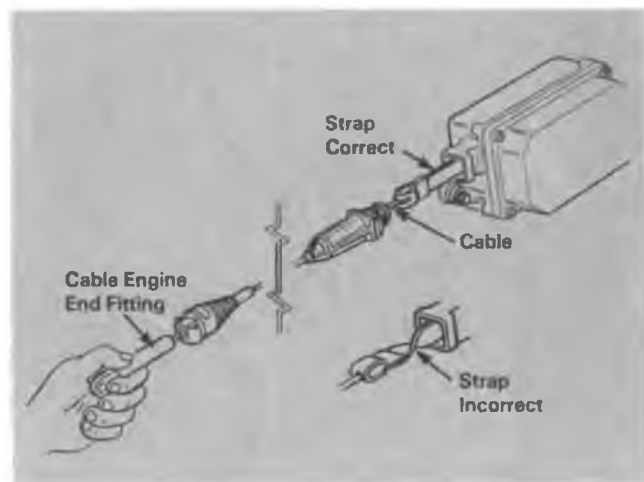

Figure 7-2 Cable Installation
- A. Pull cruise cable engine end fitting until cable is snug (Figure 7-2).
- B. Turn cruise cable strap end fitting to straighten strap. Strap should be flat and vertical. (Note: Strap *must not* be twisted, as shown in Figure 7-2.)